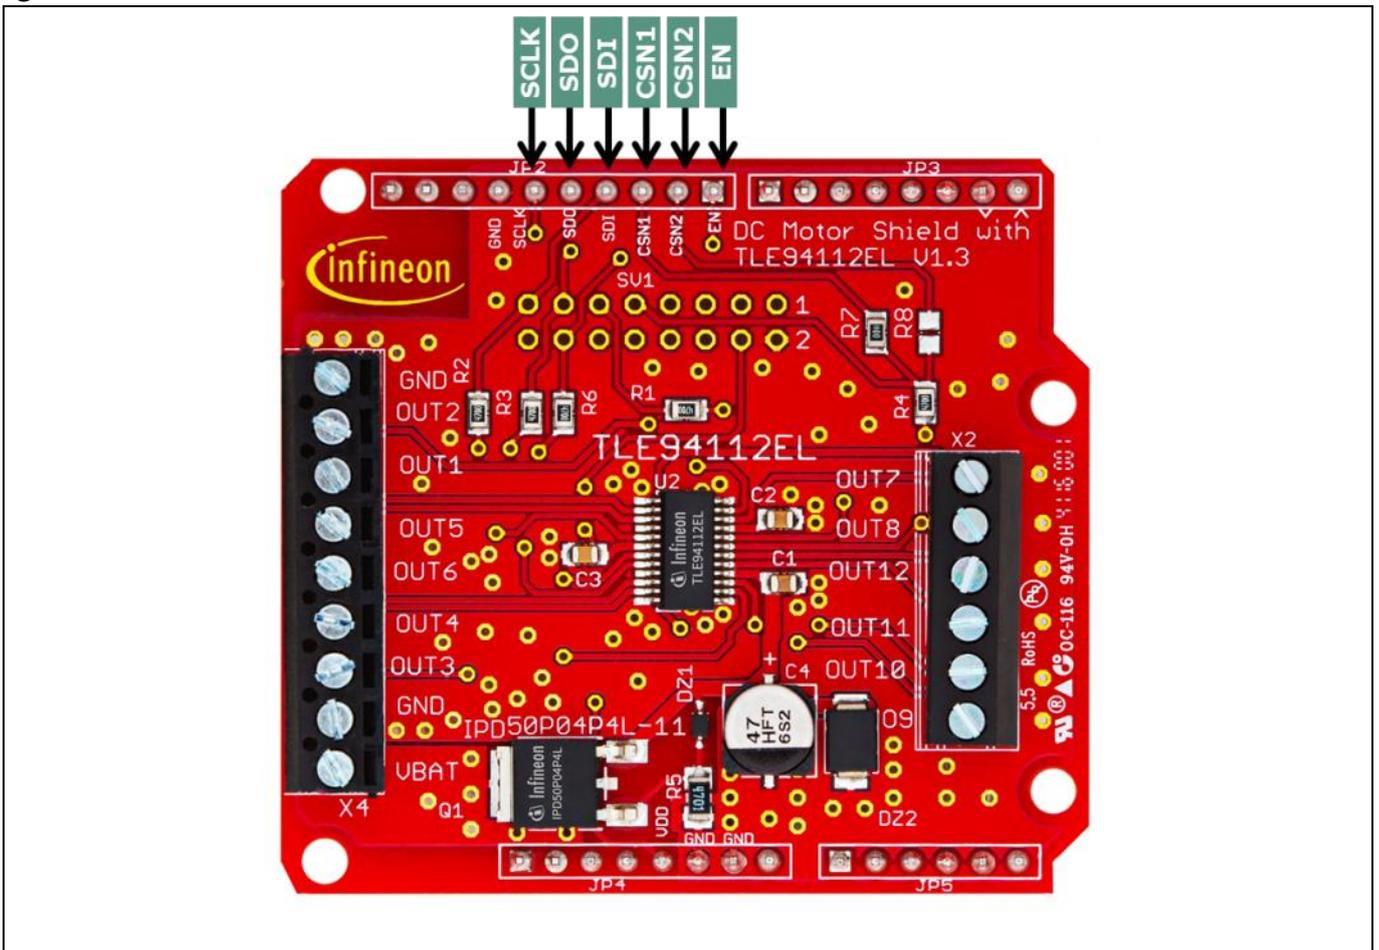

Figure 15 Control signals between DC motor shield and Arduino Uno
- Connect the DC Motor Shield to e.g. an Arduino Uno R3 or an XMC 1100 Boot Kit. The control signals between the TLE94112EL and the Arduino Uno R3 or XMC1100 are linked to each other (Figure 15).